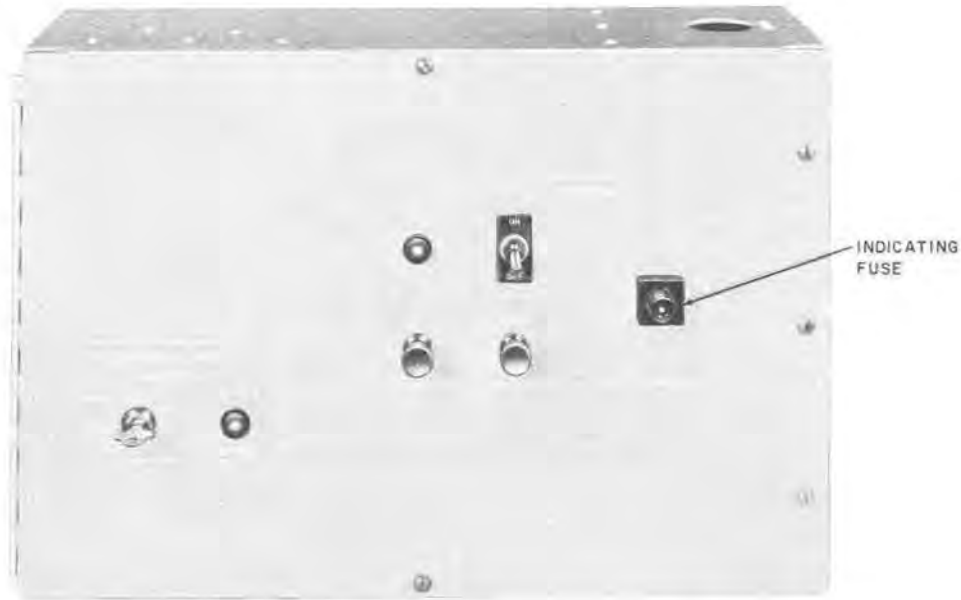

Fig. 3—Electrical Equipment Cabinet
2.03 Activation of the detection unit is caused by a gamma radiation pulse. The radiation pulse reacts with the scintillation plastic, producing a light pulse which is picked up by a photomultiplier tube. After converting the light pulse to an electronic pulse, the tube and associated printed circuit board components amplify the signal and send it to the electrical equipment cabinet (Fig. 3) where an output relay is deactivated.
3.01 The following controls are provided on the front panel of the electrical equipment cabinet (Fig. 3):